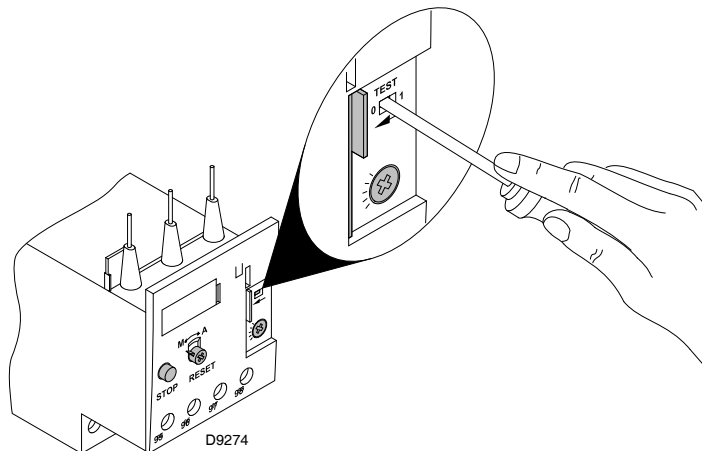

Fig. 34
- To test the thermal relay, insert a screwdriver in the window “TEST” (Fig. 34) and move it in the sense of the arrow (towards right).